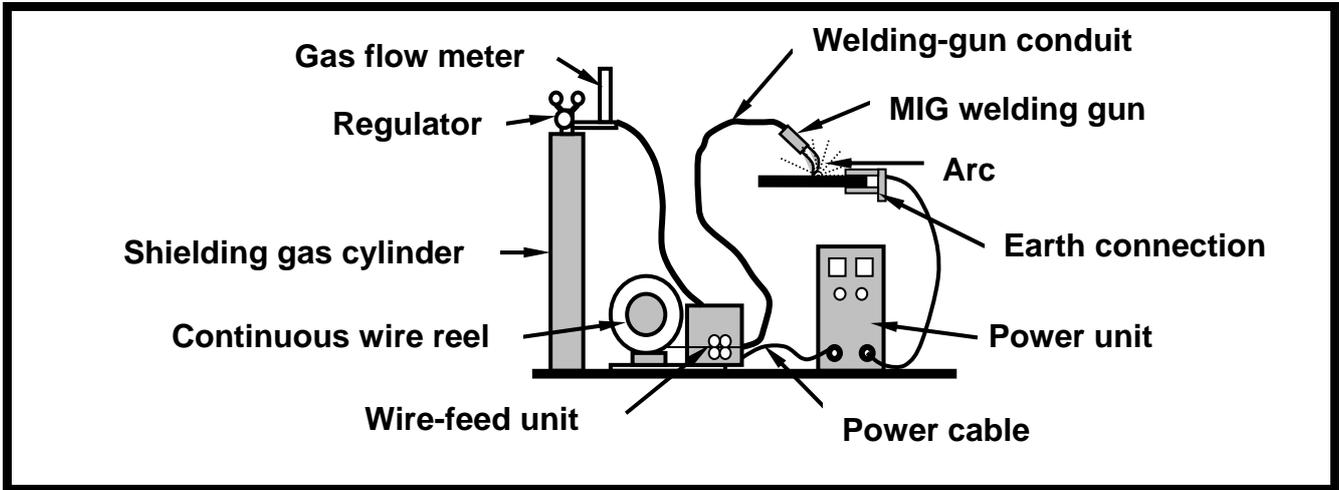

FIGURE 3.2
- The tensile test is a 3.4.1 ... test which subjects a 3.4.2 ... to an increasing 3.4.3 ... load while measuring the corresponding 3.4.4 ... of the material. (4)
3.5 Study FIGURE 3.2. Describe the principle of operation of the metal arc gas shielded equipment.